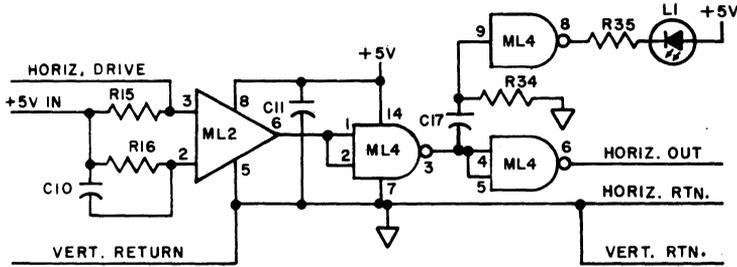

Fig. 4—Horizontal Drive Input
2.06 The horizontal drive input signals (Fig. 4) from the controller (a 5 ma current loop) terminate at R15, a pull-up resistor coupled to a DCC or MCC +5 V supply. The input is applied to the cathode (pin 3) of the optical isolator